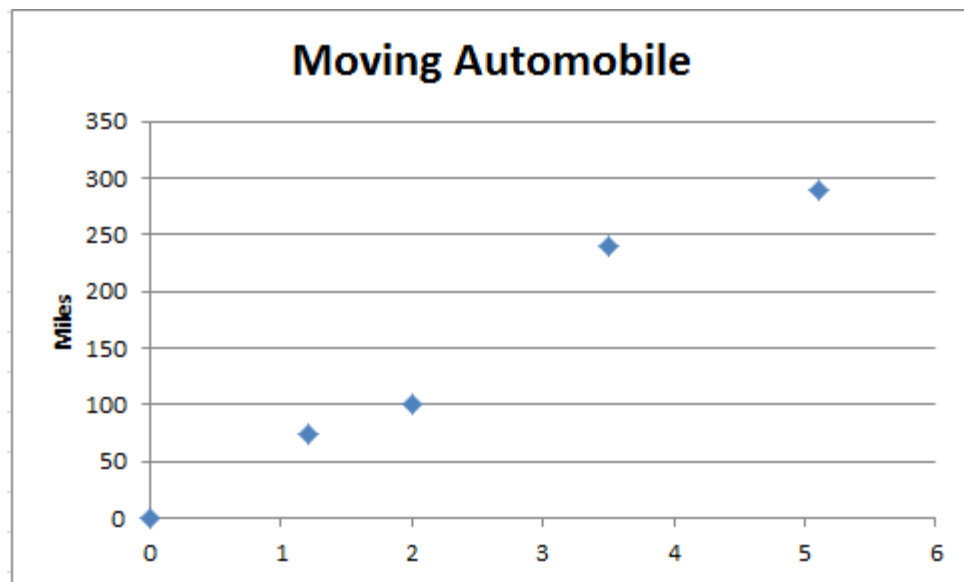

Figure 3.36. Scatter chart with title and Y axis label
3. Use the skills you previously practiced to delete the legend, change the title to **Moving Automobile**, and add the rotated Y axis label **Miles**. Compare your chart to Figure 3.36.